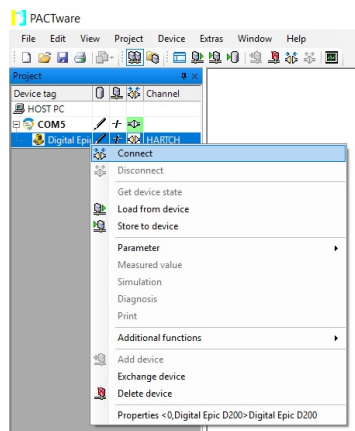

Figure 11: Connect Digital EPIC D200
8. Back on the Project Window, right click Digital EPIC D200 DTM and click *Connect*. Once the connection is made, it will be highlighted. See Figure 11.